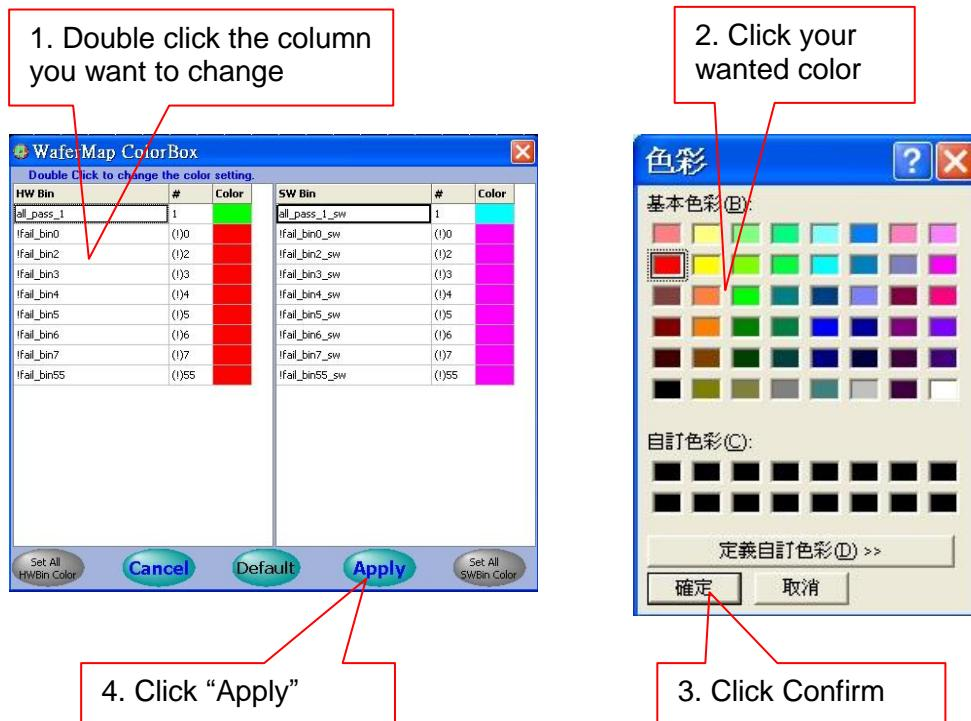

Figure 18-14 Reset Dice Color Step
- (6) Reset dice color (Figure 18-14): Reset display color for every bin, in the reset dice color provides the following button.